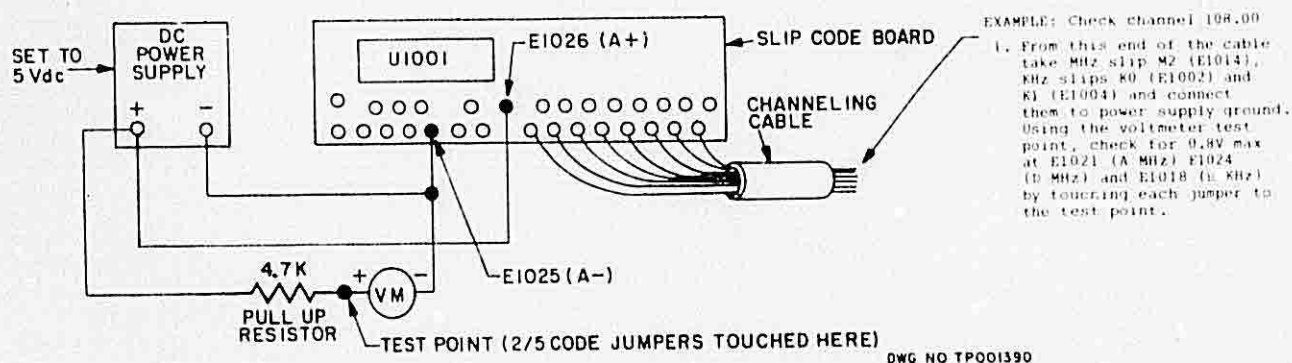

FIGURE 3. SLIP CODE BOARD BENCH TEST SET-UP
1. Connect the S/C Board into the test set-up as shown in Figure 3.
- b) Refer to Table 2 and touch each appropriate 2/5 code jumper lead (one at a time) to the test point shown in Figure 3. The maximum permissible voltage is 0.8 Vdc (logic low). The leads are identified by the letter "X". At this time the remaining 2/5 code lines should also be touched to the test point. These leads should indicate an open circuit (voltmeter reads 5 volts).